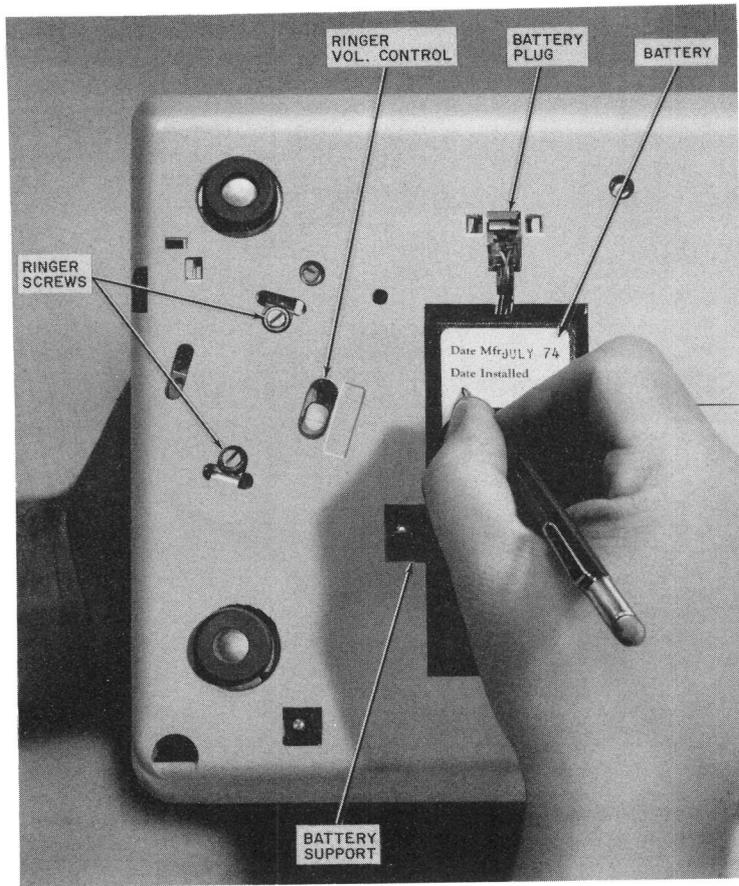

Fig. 7—Telephone Set, Bottom View
- (c) The battery is located in the bottom of the telephone set (Fig. 7).